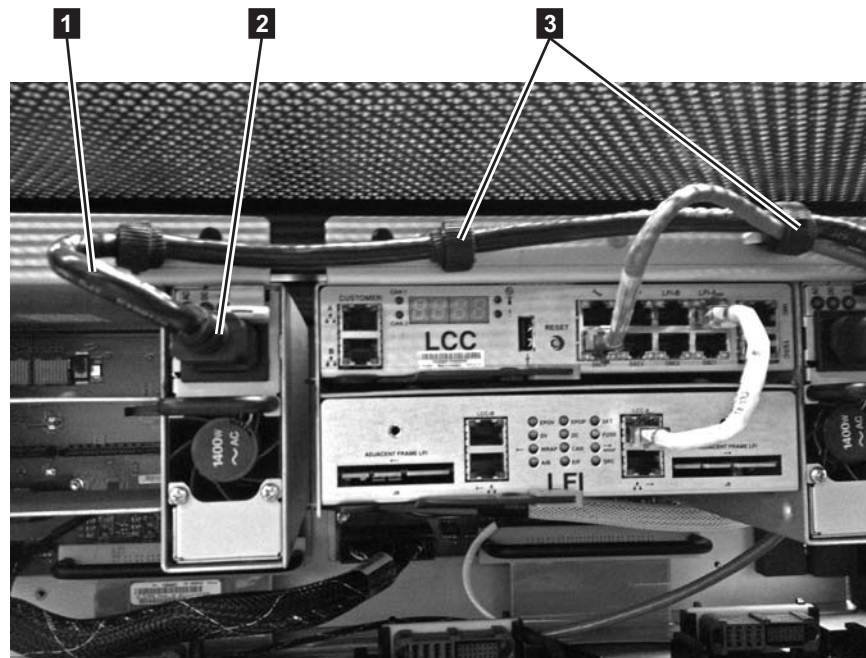

Figure 25. Connecting power to card cage B power supply
- 6. As shown in Figure 25, attach the other customer power cord **1** to card cage B power supply **2**.
- 7. Route the power cord from card cage B upwards and across the card cage, securing with hook and loop fasteners **3** as shown in Figure 25.